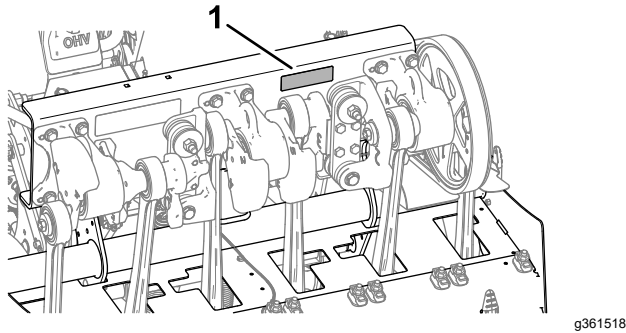

Figure 171
3. Check the coring head fasteners, tiller handle fasteners, and wheel lug nuts to ensure that the proper torque is maintained. Fastener torque requirements are listed on the bolt torque decal located on the coring head support channel (Figure 171).